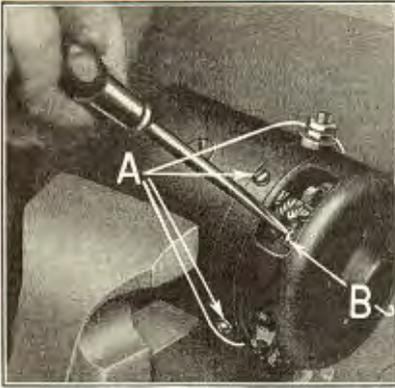

Fig. 489
- 958** Run out the four brush end bracket to yoke screws (See "A" Fig. 489) together with the two screws "B" which hold the two field leads to brush holder.
- 971 Install brush end bracket on end of yoke by running in the four screws which hold it in place, also the two screws which hold field leads to brush holders (See Fig. 489). (The starting motor field leads are not crossed when installing brush end bracket as they are on the generator, but are connected direct to the insulated brush holders.